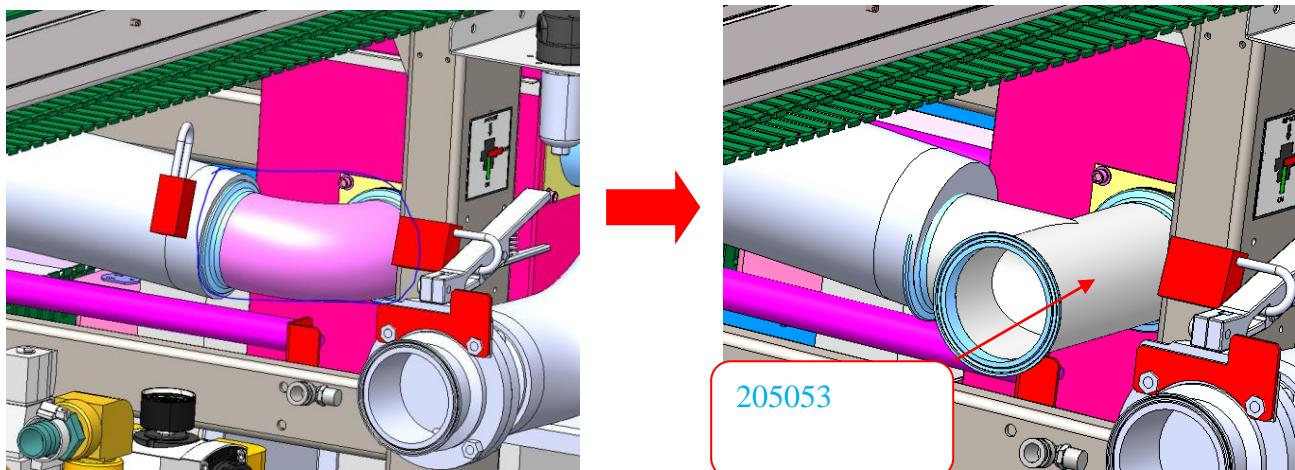

Fig 13
11. Use 3"TEE (205053) Replace 3" ELBOW (204906) (see Fig 13)